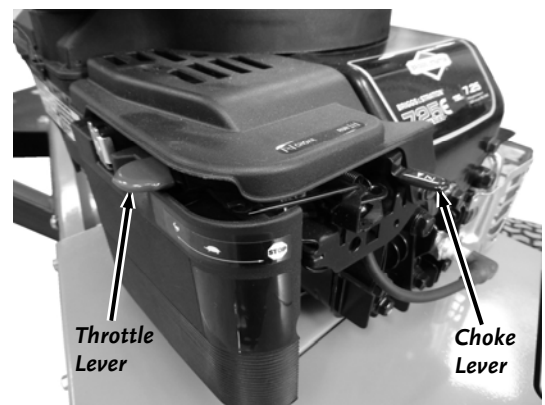

Figure 17
1. Push the Throttle Control Lever all the way to the left (Rabbit position) (**Figure 17**).